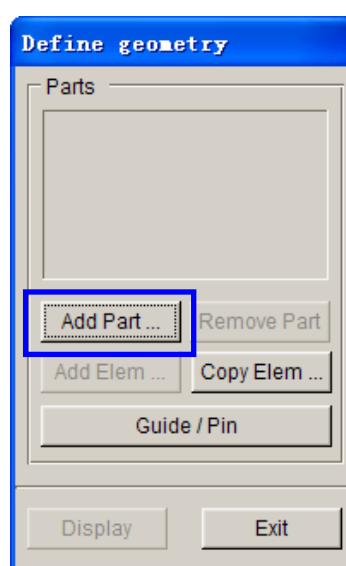

Figure 4.15 Define geometry dialog box
5. The DEFINE GEOMETRY dialog box illustrated in Figure 4.15 is displayed. Next, click **Add Part...** button in the dialog box.